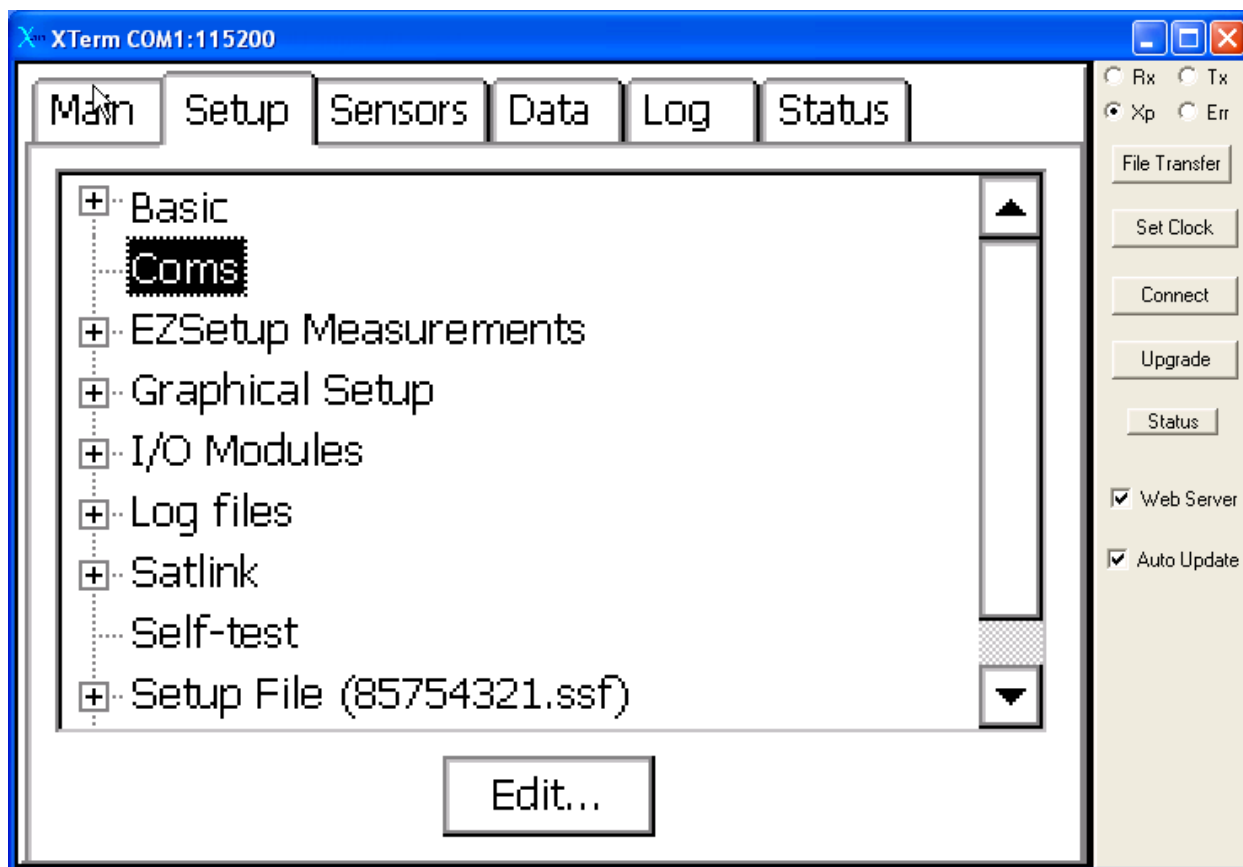

Fig 13. Xpert Setup screen
6. Press the *Setup* Tab to move to the *Setup* screen (Fig 13).